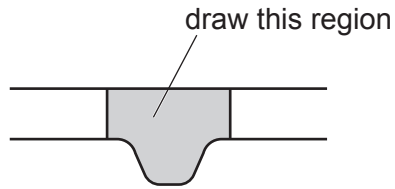

Fig. 2.1
- (a) (i) Draw a large plan diagram of the leaf section on **N1** shown by the shaded region in Fig. 2.1 (midrib).